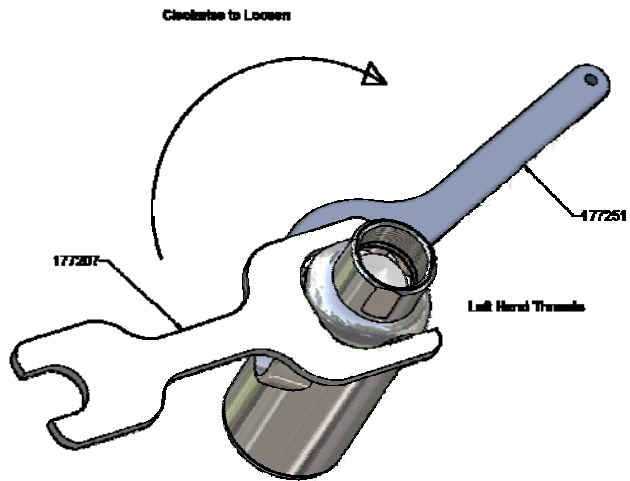
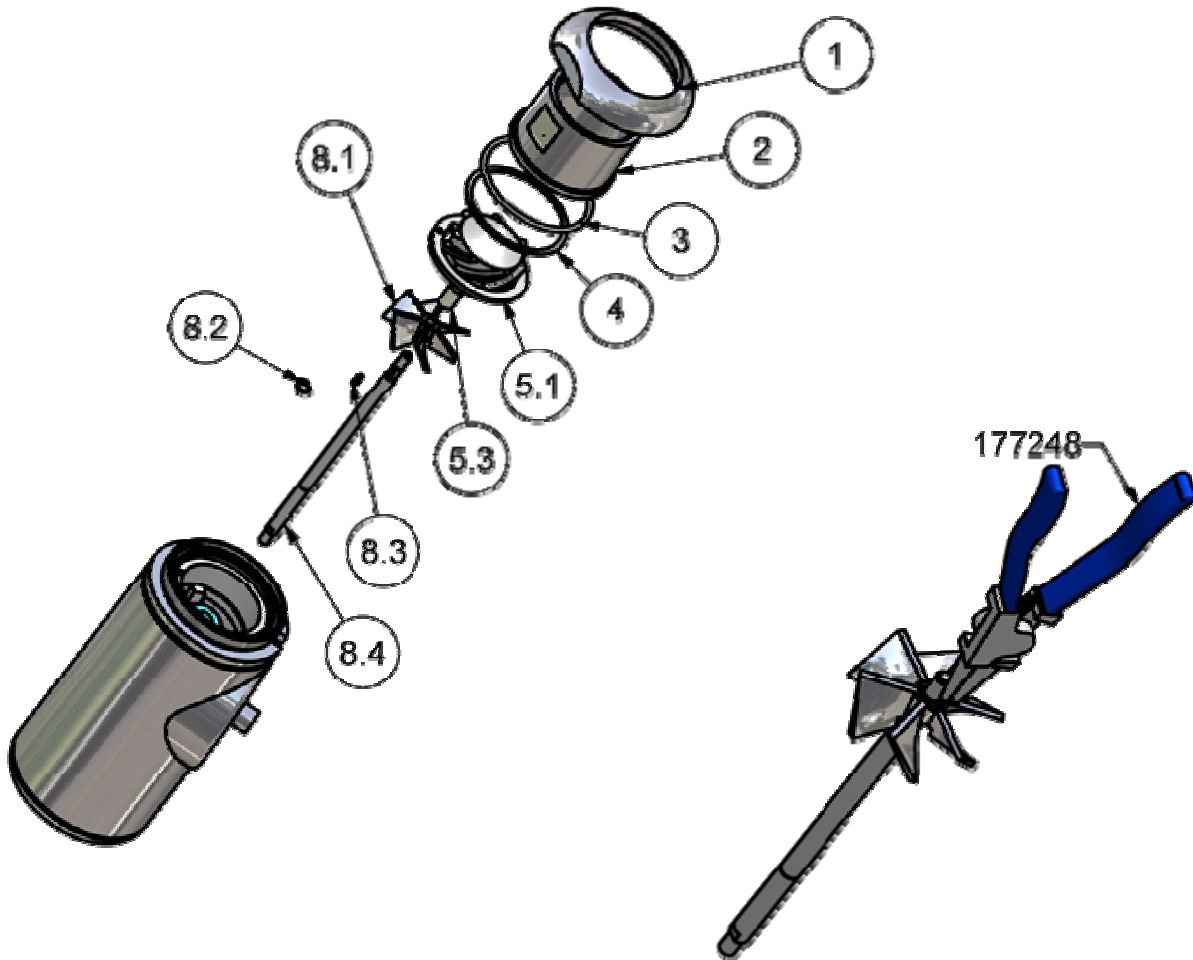

Figure 9
Figure 10
2. Remove position 1 by rotating clockwise while holding inlet ring; position 12.4 using spanner wrenches as shown in Figure 23 and Figure 27 Also see Figure 9.
7. Remove position 8.2 using snap-ring pliers (see Figure 9 and Figure 10)